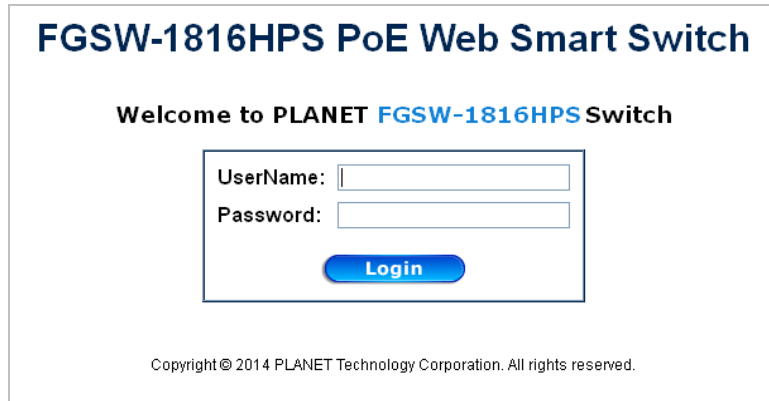

Figure 4-2 Login Screen
- When the following login screen appears, please enter "admin" as the default username and "admin" as the password (unless you have changed these, in which case use your own login details) to log in the main screen of the PoE Web Smart Switch. The login screen in Figure 4-2 appears.